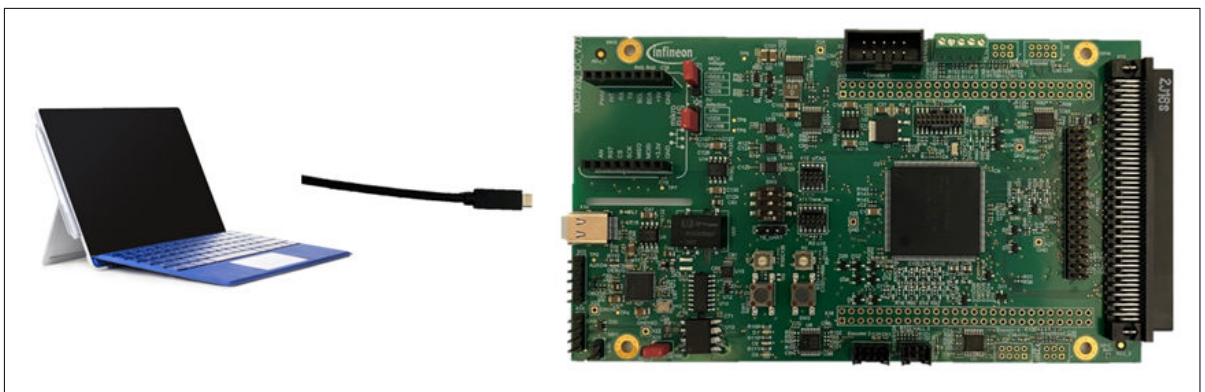

Figure 8 Connect USB cable to the USB connector on the board
1. To program or debug the XMC7200 drive kit, connect it to the PC using a USB Type-C cable. Attach the cable to the J-Link USB connector as shown in Figure 8. Upon first connection, the PC recognizes the device as a USB composite device